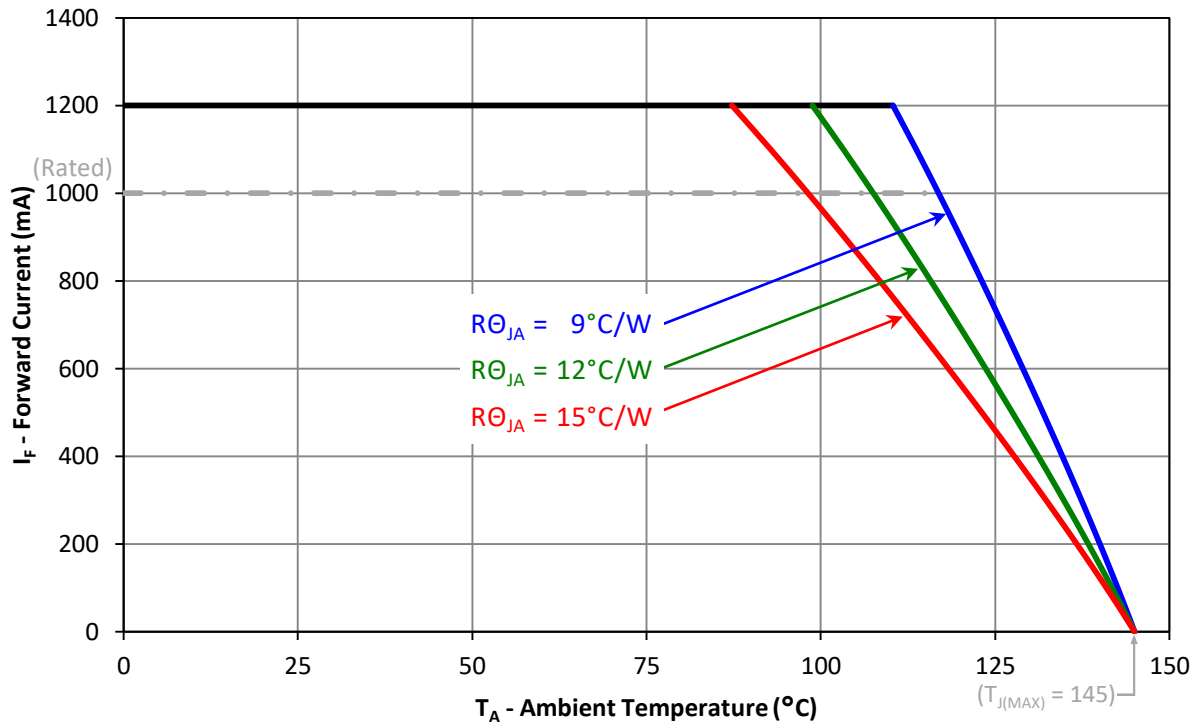

Figure 11: Maximum forward current vs. ambient temperature based on $T_{j(MAX)} = 145^\circ\text{C}$.
- Maximum DC forward current is determined by the overall thermal resistance and ambient temperature. Follow the curves in Figure 11 for current derating.
Notes for Figure 11: